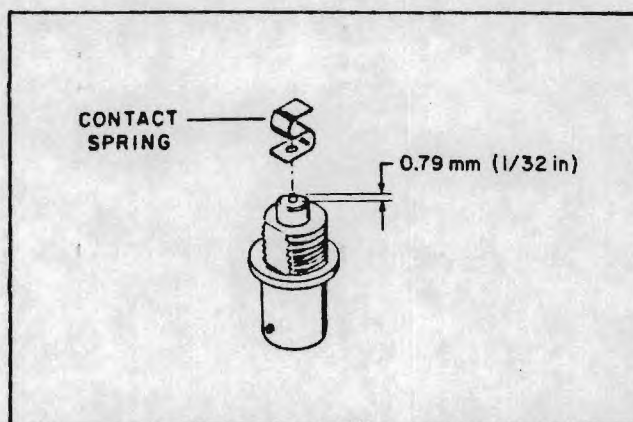

Figure 2. Cutting Center Conductor Lead to Accommodate Contact Spring
49. Parts mentioned in the following procedure are identified in Figures 2 and 3.